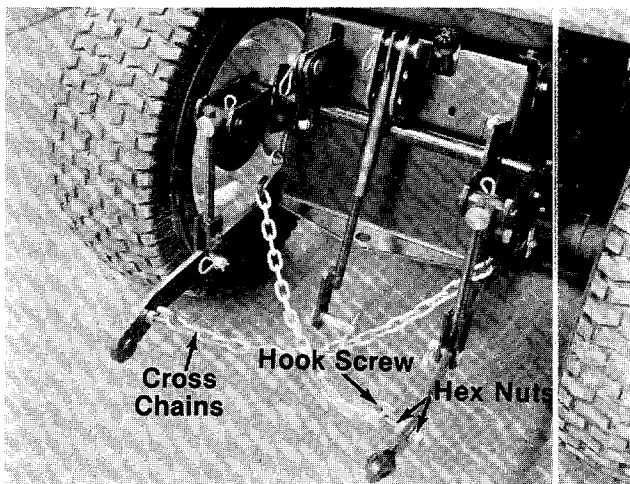

FIGURE 9.
8. Screw one hex nut all the way on each of the hook bolts. See figure 9.